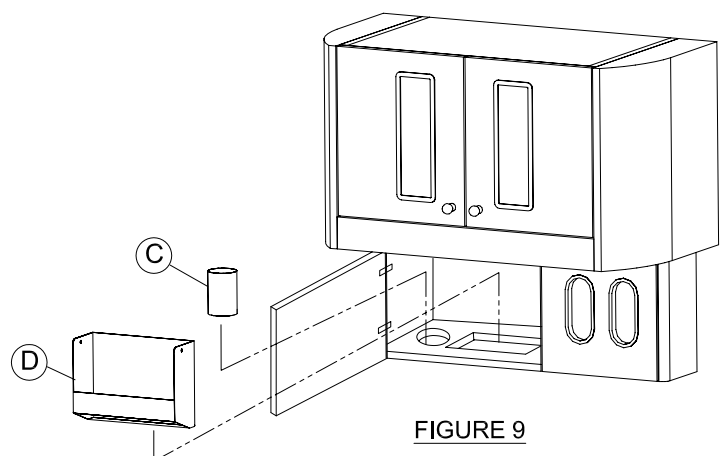

FIGURE 9
Open the lower left door and insert the cup dispenser (C) through the hole and the towel dispenser (D) through the rectangular cutout. See Figure 9